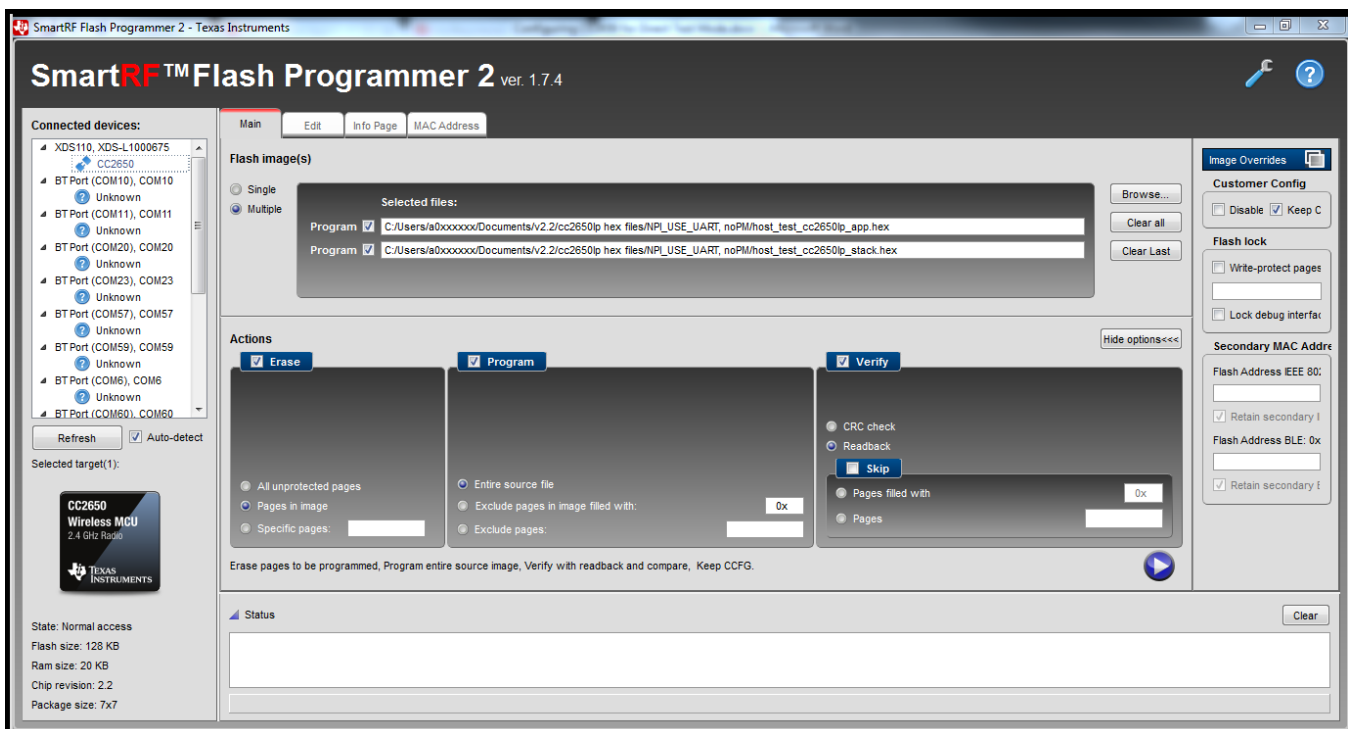

Figure 1. Settings for Programming the CC2650DK and CC2650LP
5. Main Tab -> Actions (see Figure 1)